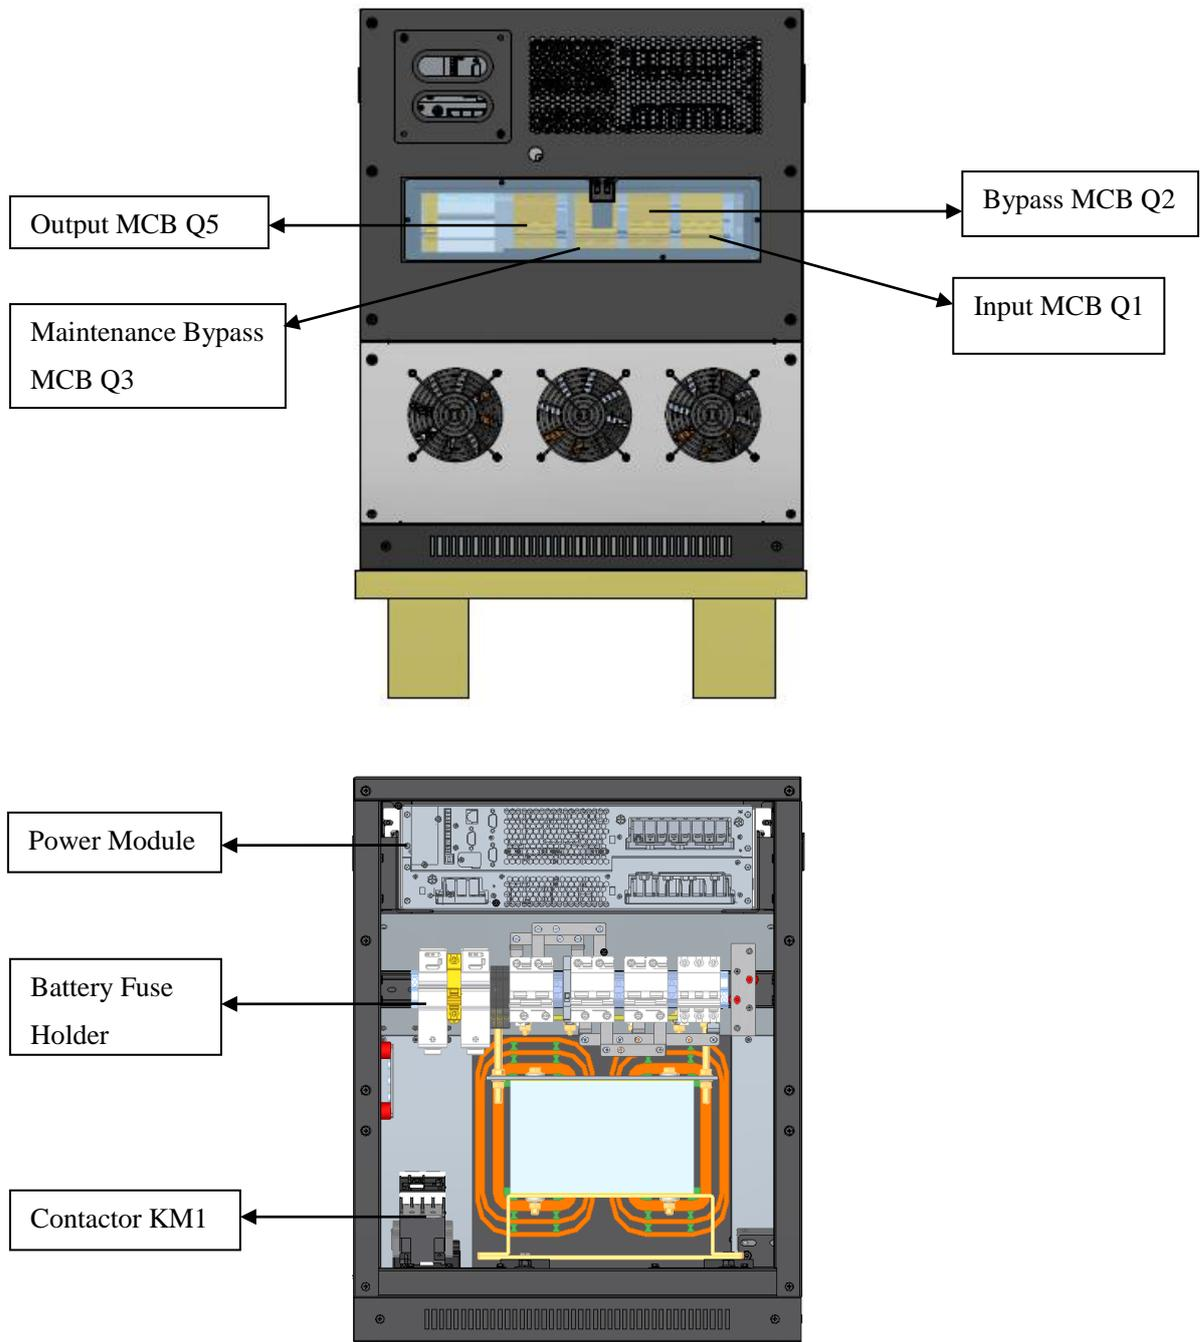

Figure 1-3 UPS Rear side
As shown in Figure 1-3, the UPS rear panel provides input, output, bypass, maintenance bypass and battery MCBs. The figure also shows UPS power module, output transformer and a contactor. Transformer primary and secondary are connected to the contactor through cables.
2. When the mains is normal, the rectifier will start, and the charger will charge the battery string. Before turning on the UPS, the output voltage is bypass voltage, and the mains supplies power to the load through the bypass. After turning on the UPS, the electronic transfer switch connects the inverter output to the load, and the mains supplies DC power to the inverter through the rectifier/PFC circuit. The inverter then converts DC power into pure sine wave AC power and supplies the AC power to the transformer connected to contactor. Final output is supplied to load from transformer secondary through electronic transfer switch. Refer figure 1-3 for the position of contactor and transformer.